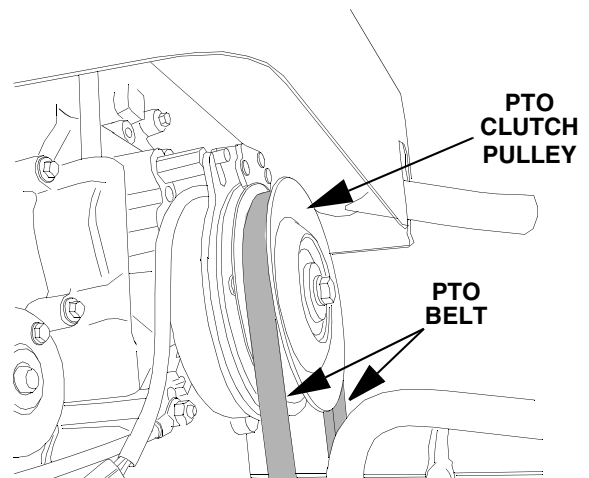

Figure 50
- Open the tractor hood and install the forward end of the PTO belt onto the PTO clutch pulley on the front of the engine. Ensure that the narrow side of the PTO belt engages the groove of the pulley (Refer to Figure 50).